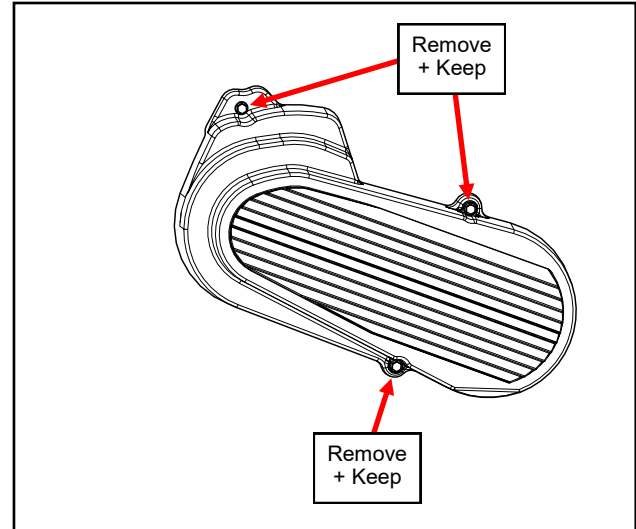

Fig. 2.11 (Remove Belt Cover)
2.11 Remove and set aside belt cover by removing (3) mounting screws per fig. 2.11. Save hardware for reuse.